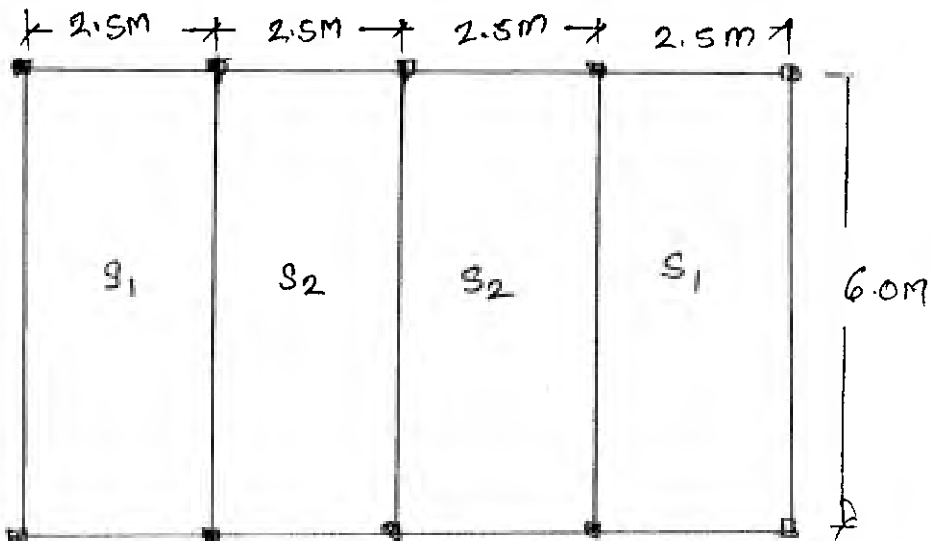

FIGURE 1
- Q. 6 Design continuous one way slab marked as S1 and S2 (Fig 1) and subjected to Live (20)
Q1) Figure 1 Shows plan and sectional detail of load bearing structure. Prepare a measurement sheet for following work. (20M)